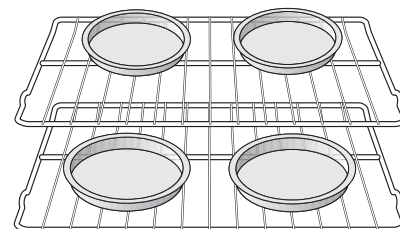

Figure 9: Baking on multiple levels
- For best results when baking cakes or cookies using two oven racks, place cookware in rack positions 3 & 6 and pans as shown in Figure 9. Allow at least 2 inches (5 cm) of space between bakeware for proper air circulation.